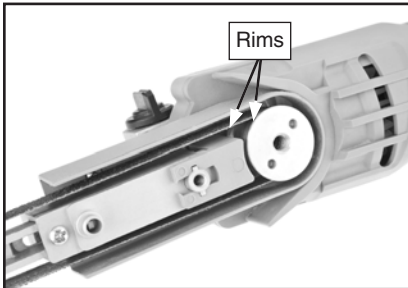

Figure 6. Sanding belt installed between wheel rims (cover removed for clarity).
- Check that sanding belt sits between drive wheel rims (see **Figure 6**) and is centered over front wheel. This will help ensure belt operates correctly.